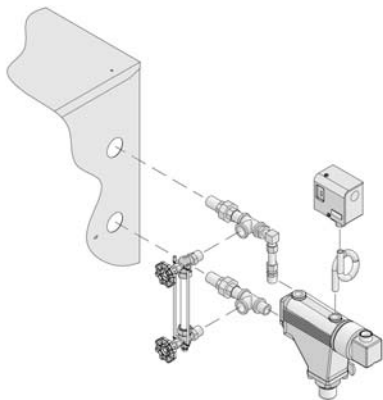

Figure 8: Float-Type Low Water Cut-Off and Pressure Limit Installation
5. Install float-type LWCO, if so equipped. See Figure 8.
- a. Float LWCO only: Remove $\frac{1}{4}$ " NPT plug from top of Low Water Cut-Off. Install Syphon and Limit into this tapping. See Figure 8.